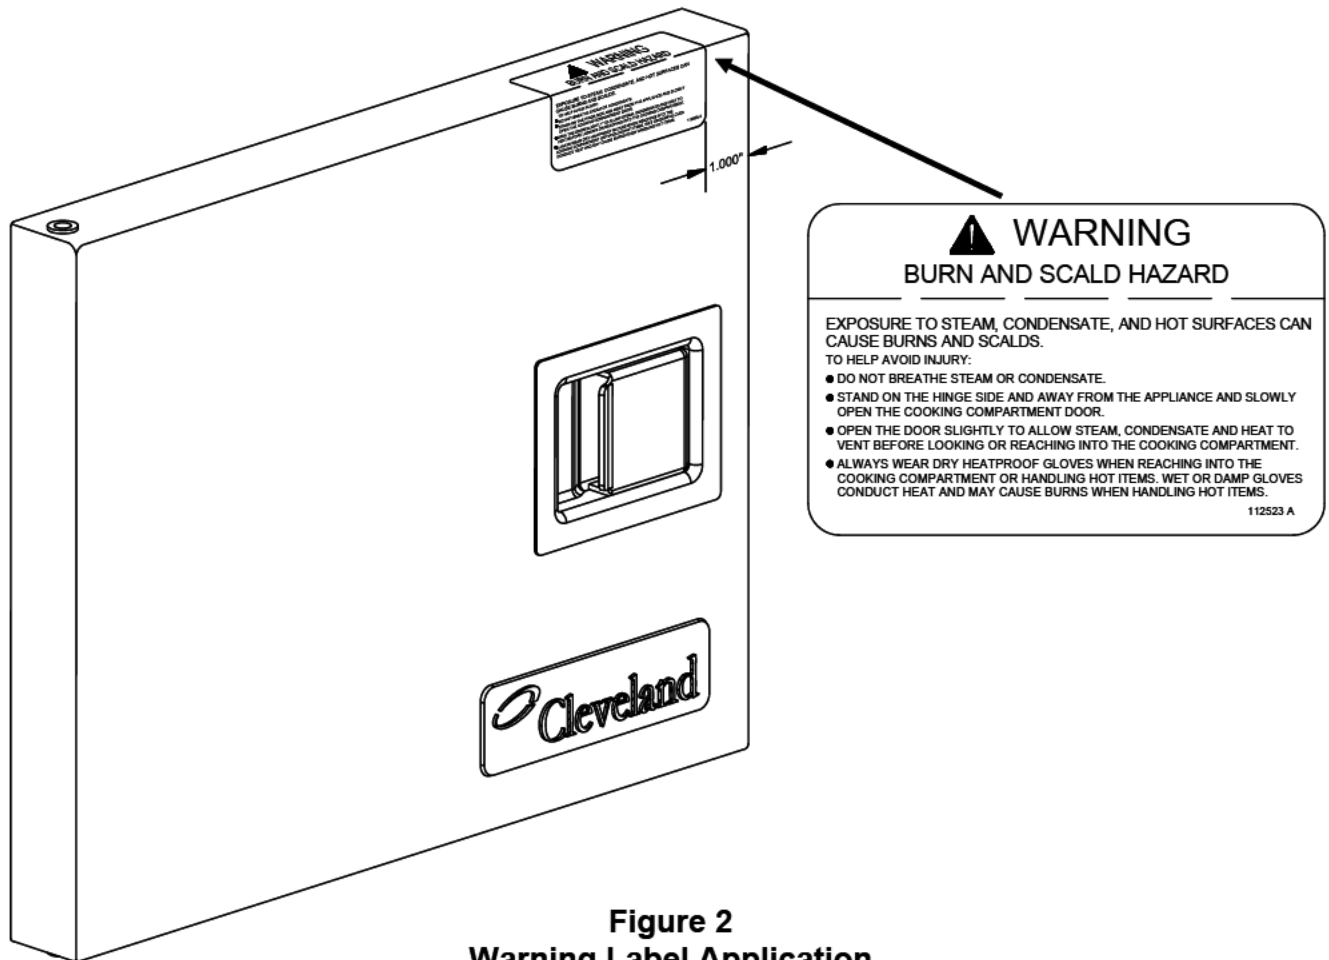

Figure 2
- Use a suitable plain washer or strainer washer at all Garden Hose threaded connections. See Figure 2 for strainer washer locations.
20. Place the Burn and Scald Hazard warning label on the door of the LOWER steamer as shown in Figure 2.